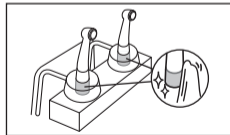

Fig. 22
- 2 Wipe off dirt on a part held by a handpiece holder using a cloth moistened with 60 - 90 % ethanol or disinfectant (CaviWipes®) (Fig. 22).